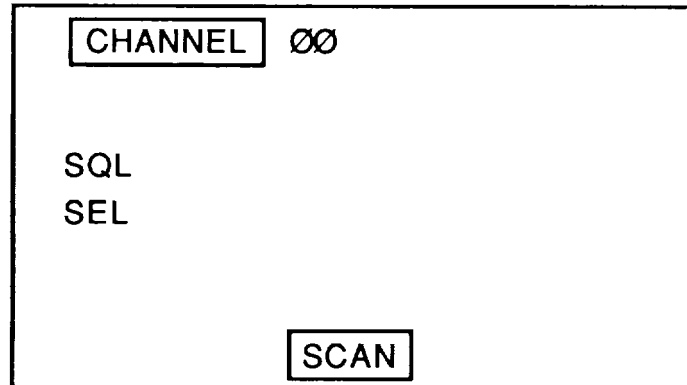

Figure 2-36. SELADR Scan Display
- (b) Press the following pushbuttons: SEL RX (8)+ ON (MODE) (15) + SCAN (12). The audio will immediately be squelched and the radio will begin scanning the channels previously entered on the scan list (see paragraph k.1.). Scanning will continue indefinitely or until any of the following occur:
- (1) A matching four-tone code is detected on one of the scanned channels. In this case, the scan is halted, selective address receive is deactivated, an audio tone alerts the operator of an incoming call, and squelch is returned to normal operation.
- (2) Squelch knob is turned or the CLR pushbutton is pressed. In either of these cases, the scan is halted, selective address receive is deactivated and squelch is returned to normal operation.
After the contact is completed the operator may push the KEY (10) pushbutton to reenter the SELADR Scan mode. Otherwise, step 2 above may be used to reenter the SELADR Scan mode. The display during SELADR Scan appears as in figure 2-36 with the CHANNEL word and SCAN in inverse video. The channel number changes as each channel is scanned.